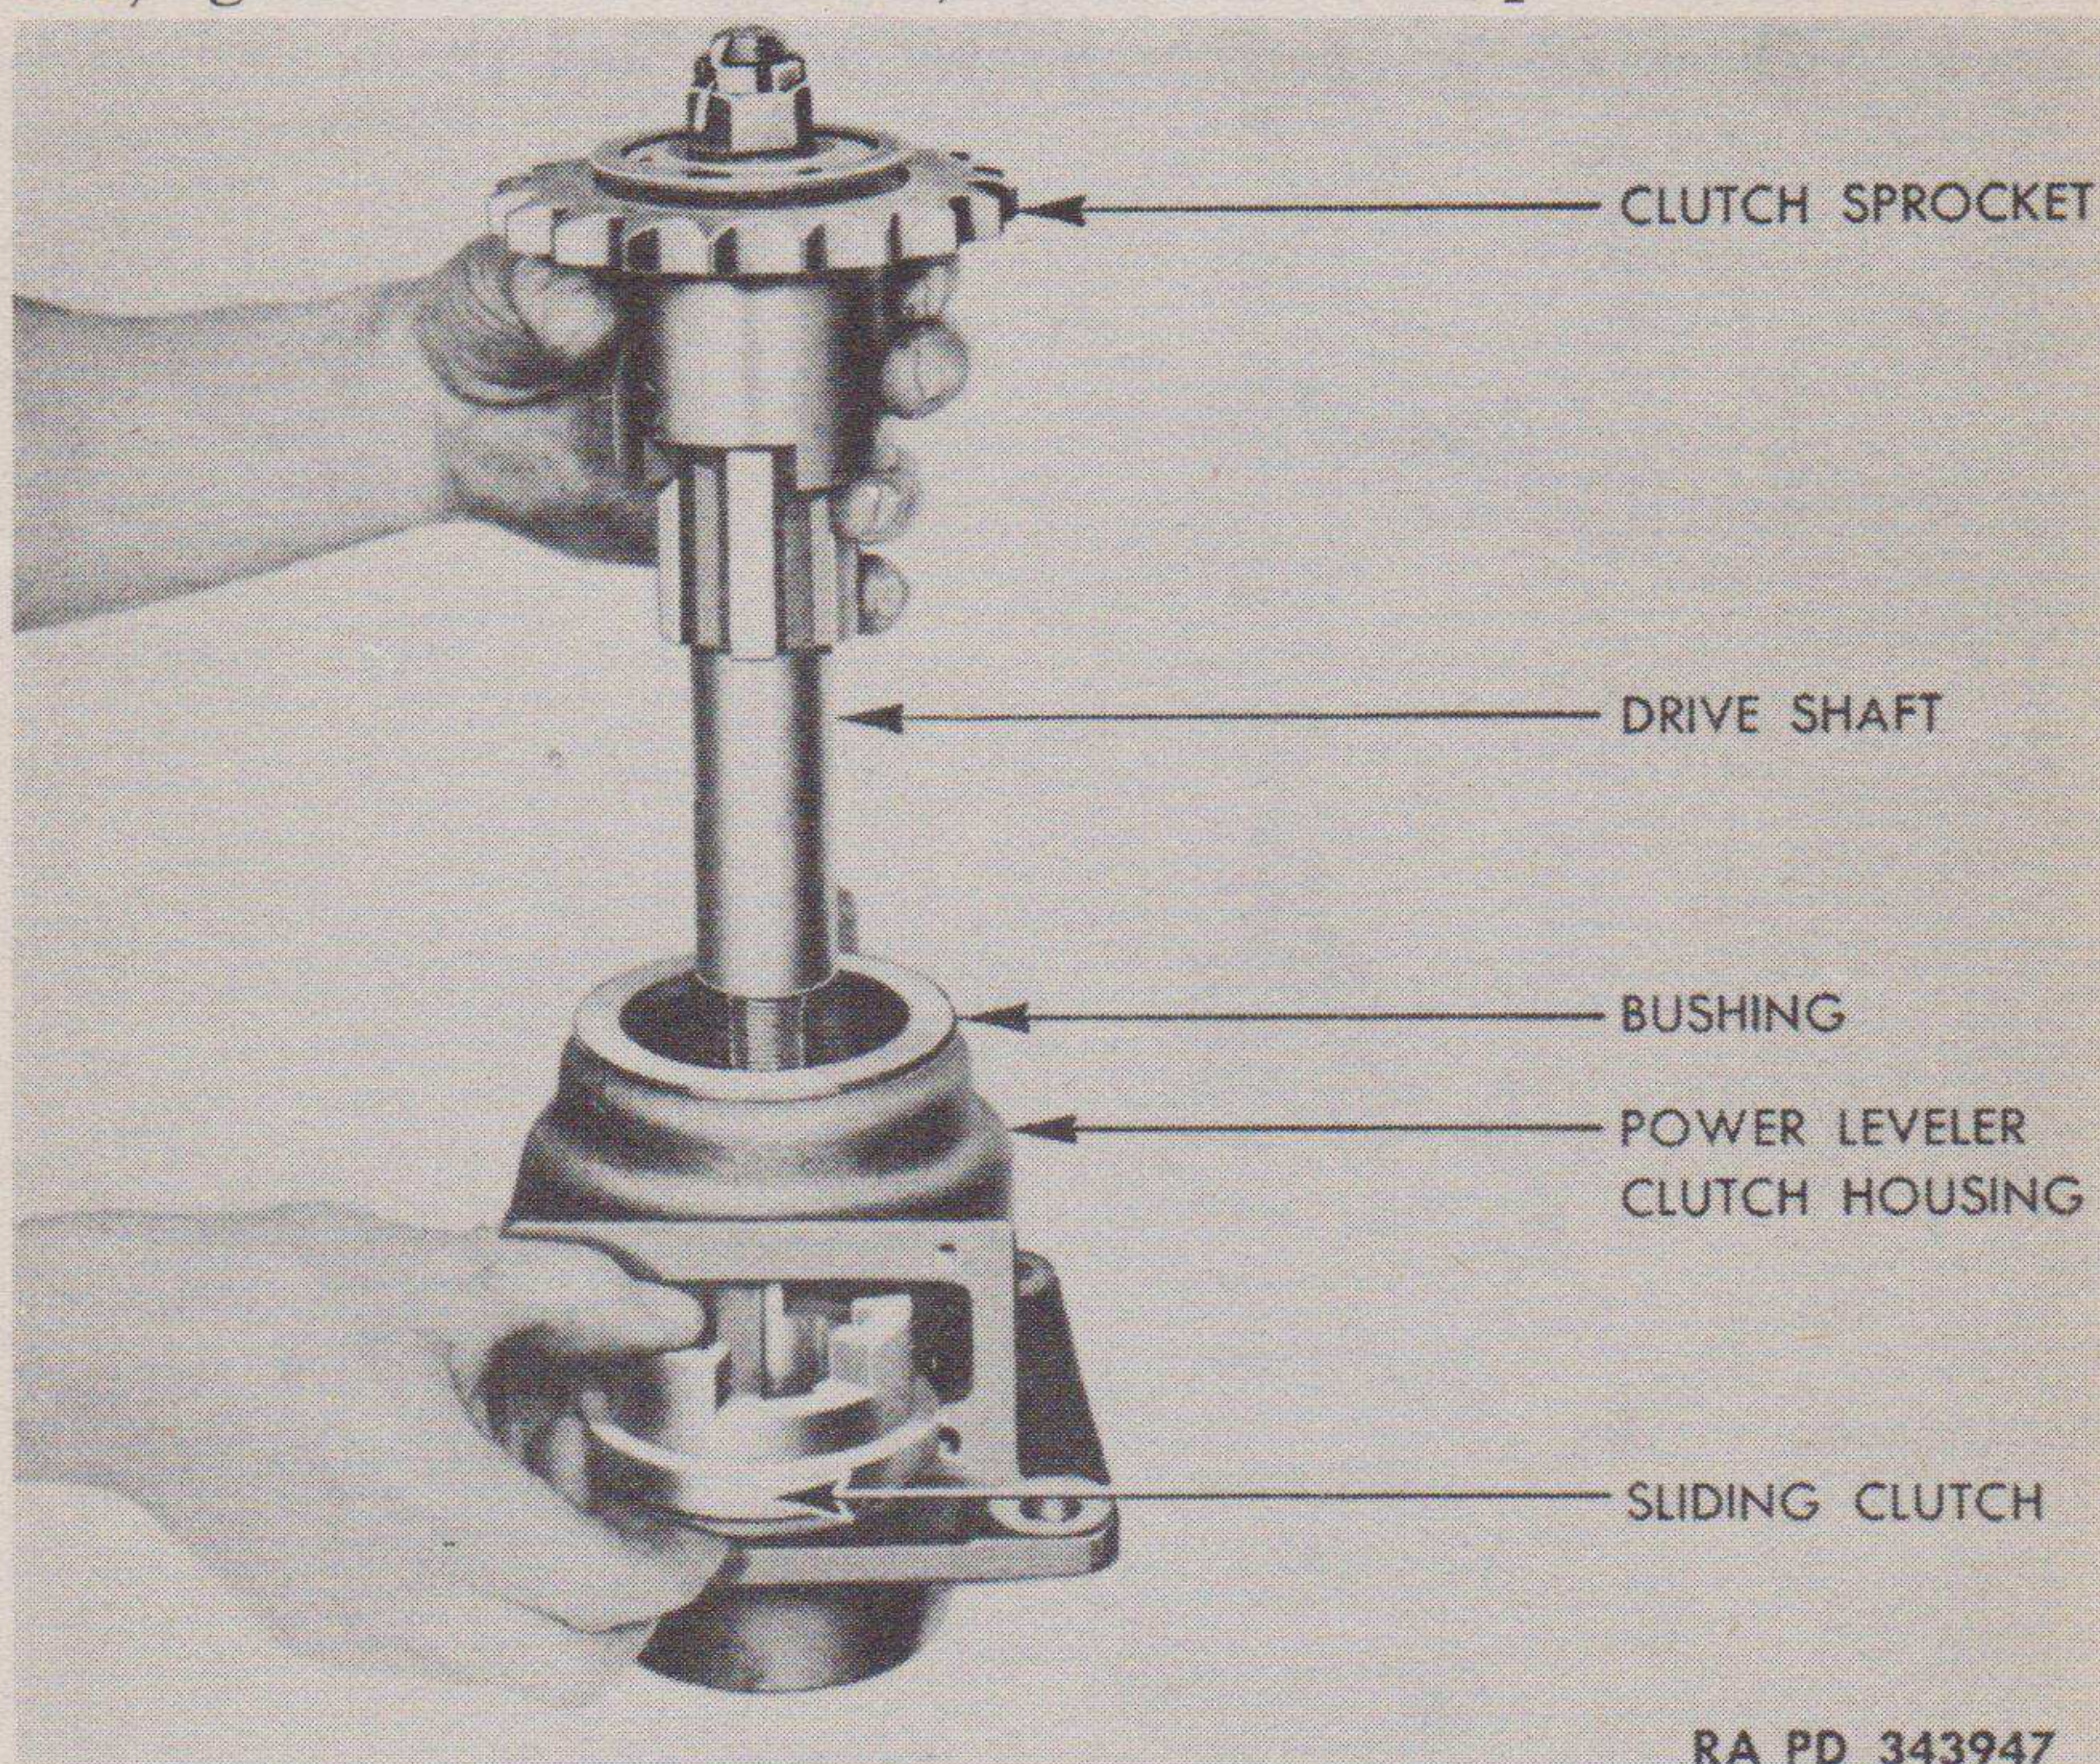

Figure 89—Installing Power Leveler Sliding Clutch
c. Place drive shaft collar, shifter fork, and sliding clutch in housing; then thread the drive shaft in through the clutch (fig. 89), drive shaft collar, and ball bearing. Press shaft into housing until it bottoms against the collar.